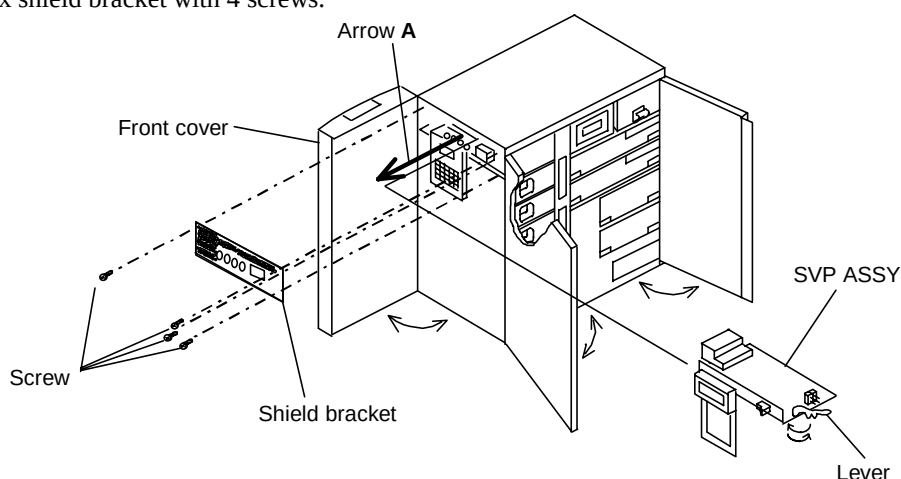

Figure 10.1 Replacing SVP ASSY
10. Replacing SVP ASSY (See Figures 10.1 and 10.2.)